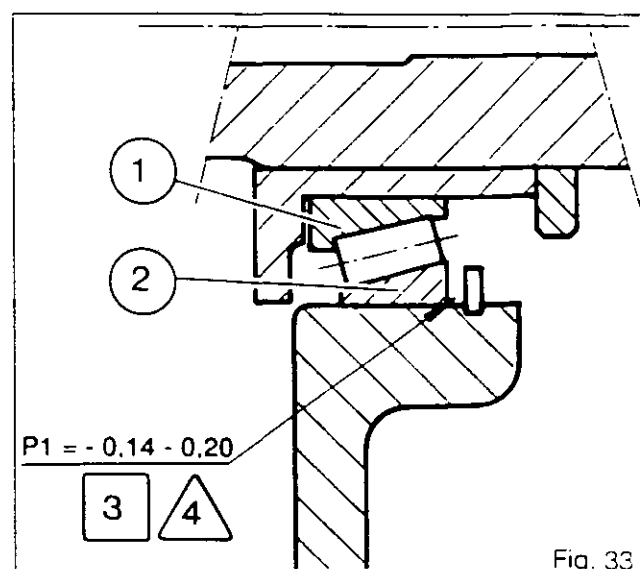

Fig. 33
- 97. Carry out Procedures 98 to 108 to obtain a preload (Fig.33) of **P1= minus 0.14mm to minus 0.20mm** (0.0055in to 0.008in)